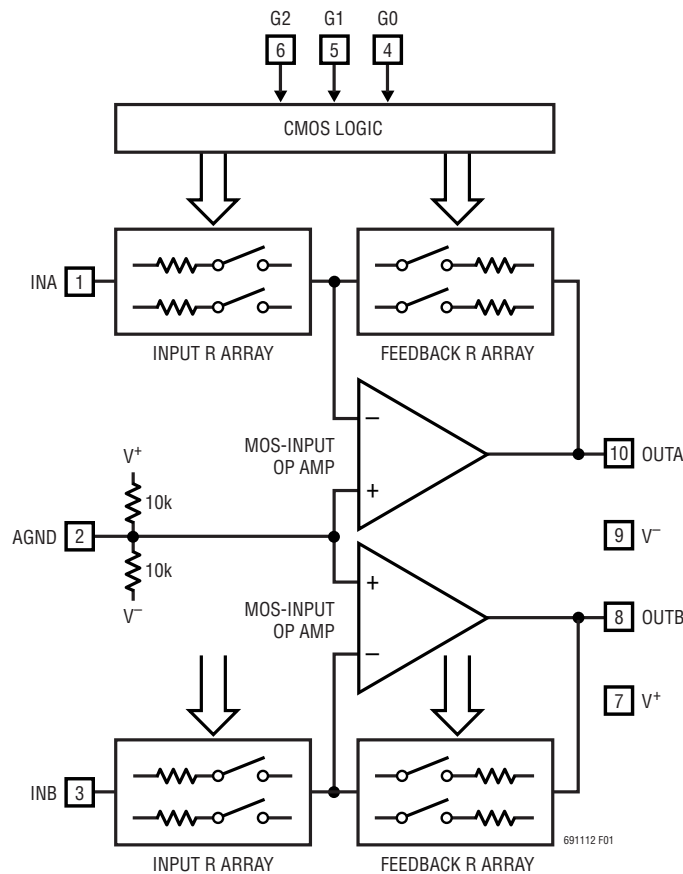
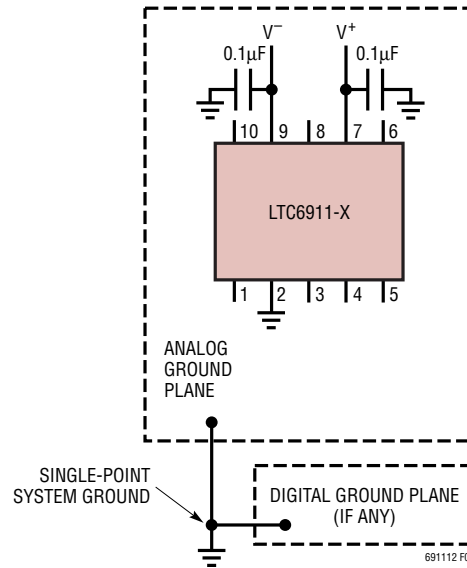
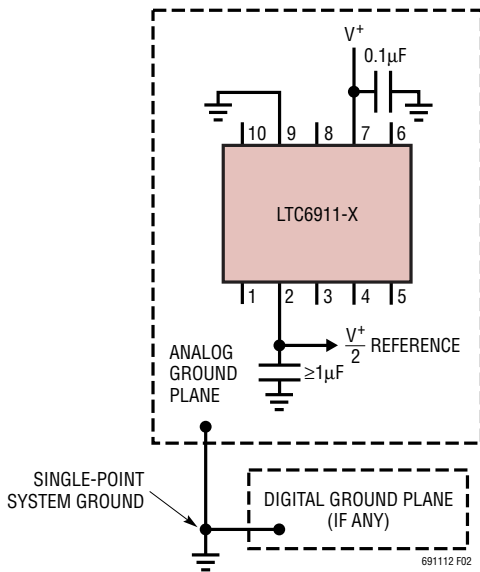

Figure 1. Block Diagram
Figure 3. Dual Supply Ground Plane Connection
Figure 2. Single Supply Ground Plane Connection
**INA (Pin 1):** Analog Input. The input signal to the A channel amplifier of the LTC6911-X is the voltage difference between the INA and AGND pin. The INA pin connects internally to a digitally controlled resistance whose other end is a current summing point at the same potential as the AGND pin (Figure 1). At unity gain (digital input 001), the value of this input resistance is approximately 10k $\Omega$  and the INA pin voltage range is rail-to-rail ( $V^+$  to  $V^-$ ). At gain settings above unity, the input resistance falls. The linear input range at INA also falls inversely proportional to the programmed gain. Tables 1 and 2 summarize this behavior. The higher gains are designed to boost lower level signals with good noise performance. In the “zero” gain state (digital input 000), analog switches disconnect the INA pin internally and this pin presents a very high input resistance. The input may vary from rail to rail in the “zero” gain setting, but the output is insensitive to it and is forced to the AGND potential.
**AGND (Pin 2):** Analog Ground. The AGND pin is at the midpoint of an internal resistive voltage divider, developing a potential halfway between the  $V^+$  and  $V^-$  pins, with an equivalent series resistance to the pin of nominally  $5k\Omega$  (Figure 1). AGND is also the noninverting input to both the internal channel A and channel B amplifiers. This makes AGND the ground reference voltage for the INA, INB, OUTA and OUTB pins. Recommended analog ground plane connection depends on how power is applied to the LTC6911-X (see Figures 2, 3 and 4). Single power supply applications typically use  $V^-$  for the system signal ground. The analog ground plane in single supply applications should therefore tie to  $V^-$ , and the AGND pin should be bypassed to this ground plane by a high quality capacitor of at least  $1\mu F$  (Figure 2). The AGND pin provides an internal analog reference voltage at half the  $V^+$  supply voltage. Dual supply applications with symmetrical supplies (such as  $\pm 5V$ ) have a natural system ground plane potential of zero volts, which can be tied directly to the AGND pin, making the zero volt ground plane the input and output reference voltage for the LTC6911-X (Figure 3). Finally, if dual asymmetrical power supplies are used, the supply ground is still the natural ground plane voltage. To maximize signal swing
In noise sensitive applications where AGND does not directly tie to a ground plane, as in Figures 2 and 4, it is important to AC-bypass the AGND pin. Otherwise, channel-to-channel isolation is degraded and wideband noise will enter the signal path from the thermal noise of the internal voltage divider resistors that present a Thévenin equivalent resistance of approximately  $5k\Omega$ . This noise can reduce SNR by at least 3dB at high gain settings. An external capacitor from AGND to the ground plane, whose impedance is well below  $5k\Omega$  at frequencies of interest, will filter and suppress this noise. A  $1\mu\text{F}$  high quality capacitor is effective for frequencies down to 1kHz. Larger capacitors extend this suppression to lower frequencies. This issue does not arise in dual supply applications because the AGND pin ties directly to ground.
The LTC6911-1/LTC6911-2 are small outline, wideband inverting 2-channel amplifiers whose voltage gain is digitally programmable. Each delivers a choice of eight voltage gains, controlled by the 3-bit digital parallel interface (G pins), which accept CMOS logic levels. The gain code is always monotonic; an increase in the 3-bit binary number (G2 G1 G0) causes an increase in the gain. Tables 1 and 2 list the nominal voltage gains for LTC6911-1 and LTC6911-2 respectively. Gain control within each amplifier occurs by switching resistors from a matched array in or out of a closed-loop op amp circuit using MOS analog switches (Figure 1). Bandwidth depends on gain setting. Curves in the Typical Performance Characteristics section show measured frequency responses.
Settling time in the CMOS gain-control logic is typically several nanoseconds and is faster than the analog signal path. When amplifier gain changes, the limiting timing is analog, not digital, because the effects of digital input changes are observed only through the analog output (Figure 1). The LTC6911-X's logic is static (not latched) and therefore lacks bus timing requirements. However, as with any programmable-gain amplifier, each gain change causes an output transient as the amplifier's output moves, with finite speed, toward a differently scaled version of the input signal. Varying the gain faster than the output can settle produces a garbled output signal. The LTC6911-X analog path settles with a characteristic time constant or time scale,  $\tau$ , that is roughly the standard value for a first order band limited response:
of 1, or 1.5mV at a gain setting of 2. At high gains,  $V_{OS(IN)}$  approaches  $V_{OS(OA)}$ . (Offset voltage is random and can have either polarity centered on 0V.) The MOS input circuitry of the internal op amp in Figure 1 draws negligible input currents (unlike some op amps), so only  $V_{OS(OA)}$  and G affect the overall amplifier's offset.